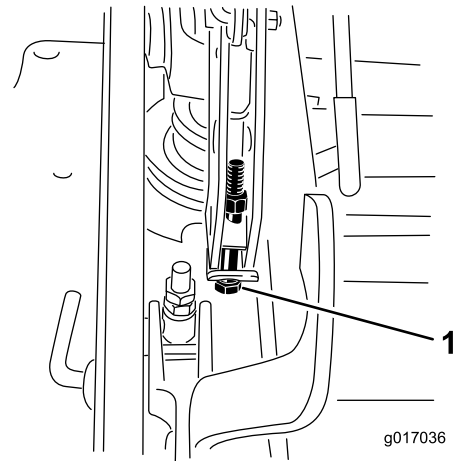

Figure 92
12. If the deck is too low, tighten the single point adjustment bolt by rotating it clockwise. If the deck is too high, loosen the single point adjustment bolt by rotating it counterclockwise (Figure 92).